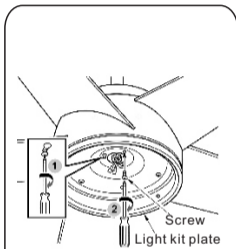

Fig.23
Step 3: Align the round hole of the light kit plate with light kit adapter, tighten all 3 screws.(Fig. 23)